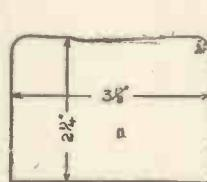

Fig. 11.—The Roof of the Cab.
**Cab and Foot-plate.**—The sides and back of the cab (Fig. 10) are cut from light sheet metal, which is then bent round to shape. The roof (Fig. 11) is separate, and tacked in position by solder; the structure is then soldered to the foot-plate (Fig. 12) in readiness for soldering to the framework later.